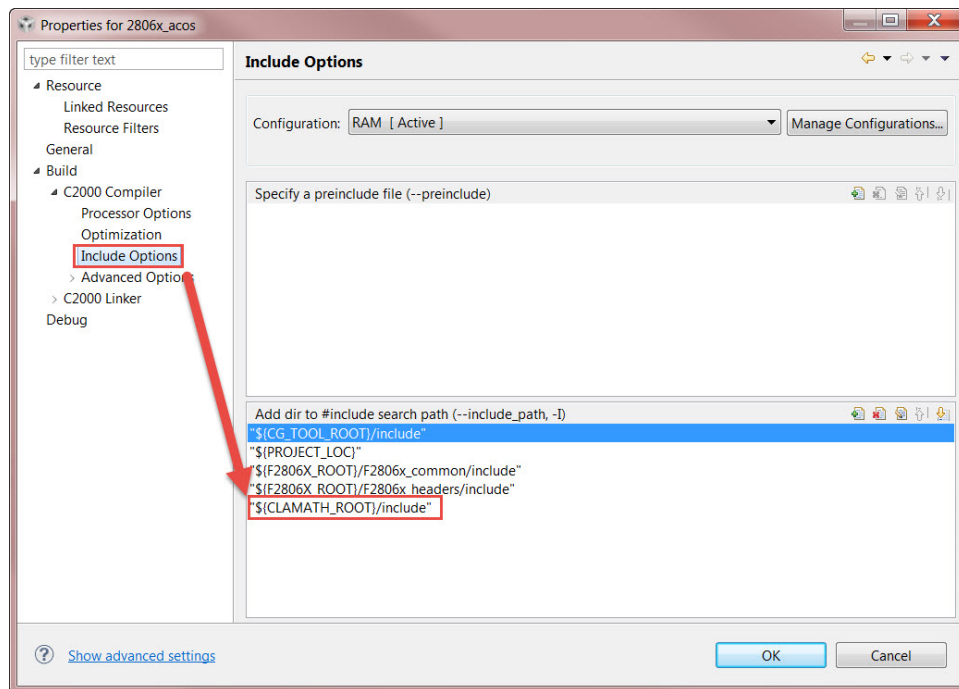

Figure 4.6: Adding the Library Header Path to the Include Options
2. Add the new path, **CLAMATH\_ROOT/include**, to the *Include Options* section of the project properties (Fig. 4.6). This option tells the compiler where to find the library header files.